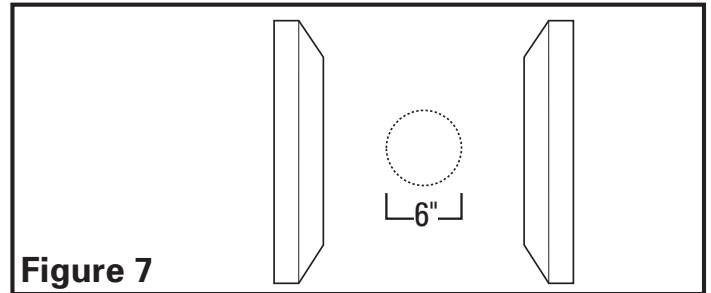

Figure 7
1. **Mounting Rail Installation:** Determine where the grill will be mounted and cut a 6" round opening, being careful not to cut or damage any electrical or other hidden utilities (**Figure 7**).